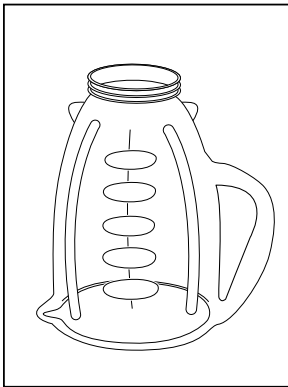

FIGURE 1
2. Turn jar upside down so the small opening is at the top. (*Figure 1*)